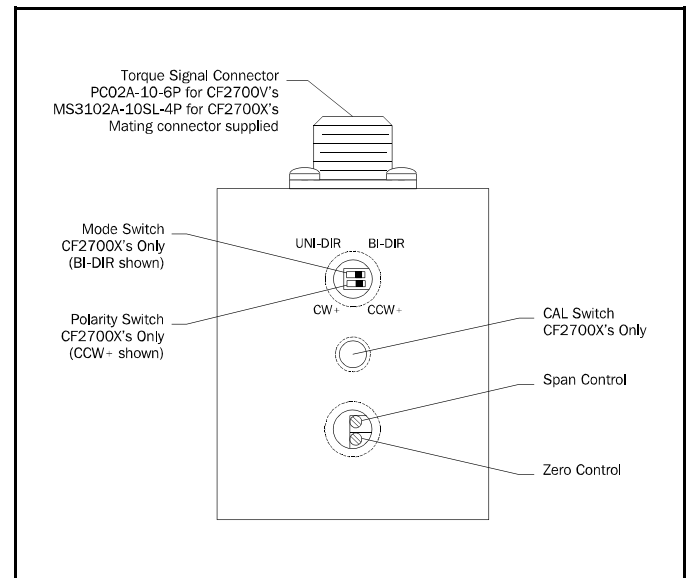
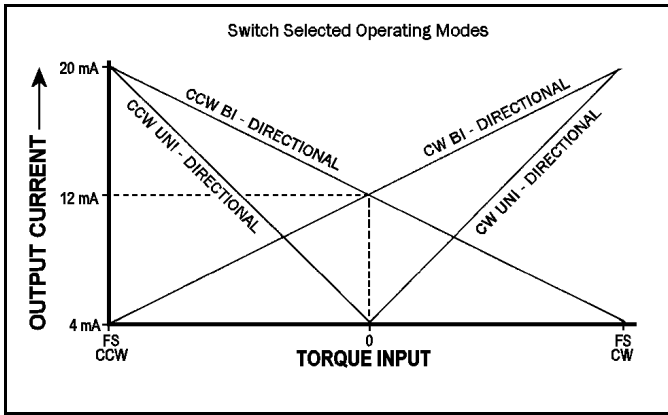

Figure 8. CF2700 Sensor Control Locations
Figure 9. CF2700X Torque Transmitter Operating Modes
*These adjustments must be made with zero torque on the driveline.* To achieve zero torque in installations that can "lock-in" friction torques (between gear drives, on a pump drive or other sealed shafts, etc.), break or disconnect one of the shaft couplings. All user controls are located in the torque connector housing; refer to Figure 8. Proceed as follows:
Torque Transmitters have two modes; unidirectional (4-20mA loop current) and bidirectional (8±12mA loop current). Figure 9 illustrates mode and polarity choices. Mode and Polarity are selected by switches inside the connector housing; see Figure 8. Remove the threaded cover to access the switches and replace it after making selections. Torque Transmitters are shipped in the CW, bidirectional mode. That mode permits measurement of bidirectional and/or reversing shaft systems. You may also use it to experimentally determine the torque direction. Then, after it is known, the transmitter mode may be changed as needed. Zero and Span should be re-adjusted after a mode change; see Section C.2.2.
Internal Calibration is enabled by pressing and holding the Cal Switch located in the connector housing; see Figure 8. While the switch is operated, the transmitter will output the Calibration Torque as the listed Loop Current. Please note, this procedure should be done with zero torque on the driveline. If calibration is done when the driveline torque is not zero, then the calibration signal will add algebraically with the driveline torque.
*These adjustments must be made with zero torque on the driveline.* To achieve zero torque in installations that can "lock-in" friction torques (between gear drives, on a pump drive or other sealed shafts, etc.), break or disconnect one of the shaft couplings. All user controls are located in the connector housing, refer to Figure 8. Proceed as follows:
current will vary linearly. Thus, when operating in the unidirectional mode, half scale torque results in a 12.00 mA loop current, 25% of full scale torque produces an 8.00 mA loop current, etc. See Figure 9 for more information.